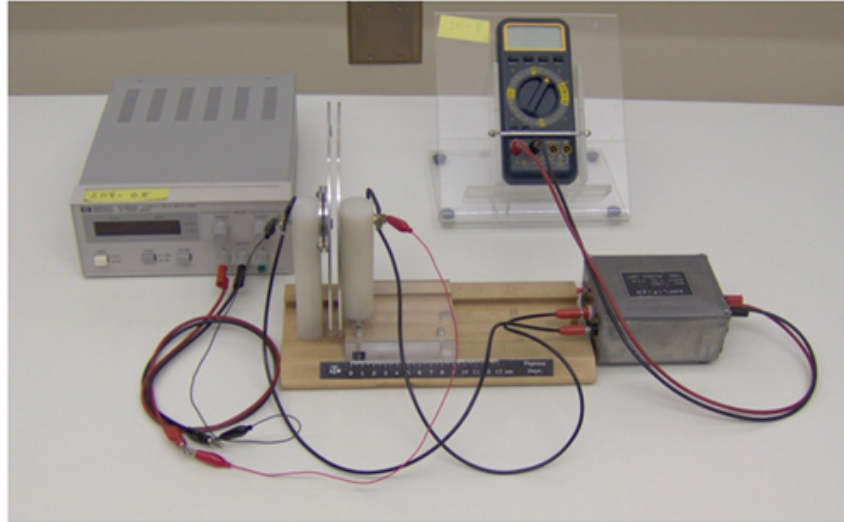

Figure 2
- 4 Your experimental setup should look like Figure 2. When you are sure your experimental setup is correct, turn on the multimeter, the power supply (which is set to 0 volts), and the interface box. Press the “zero push” button on the interface box to temporarily zero out the output signal. The multimeter should then read 0 V.